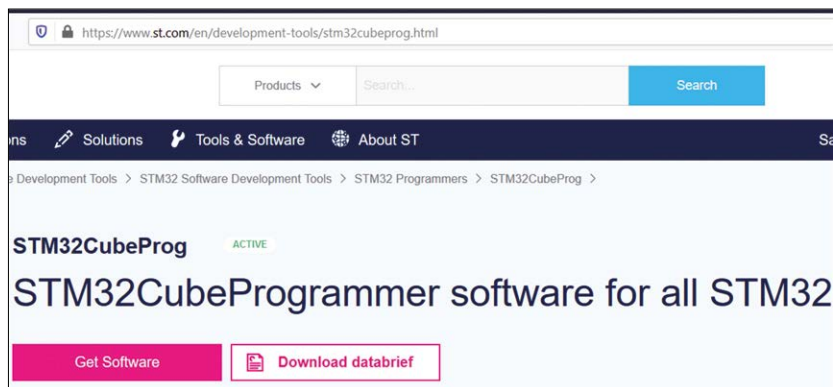

Figure 3.15: Click to install the software.
- Go to the following STMicroelectronics website (Figure 3.15):